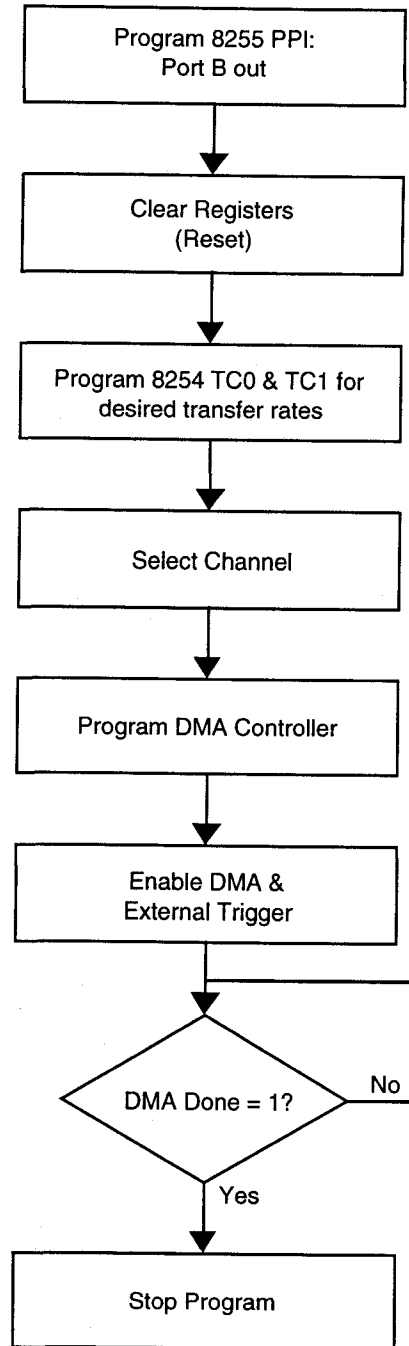

Fig. 4-9 — DMA Flow Diagram
• **DMA Flow Diagram (Figure 4-9)**